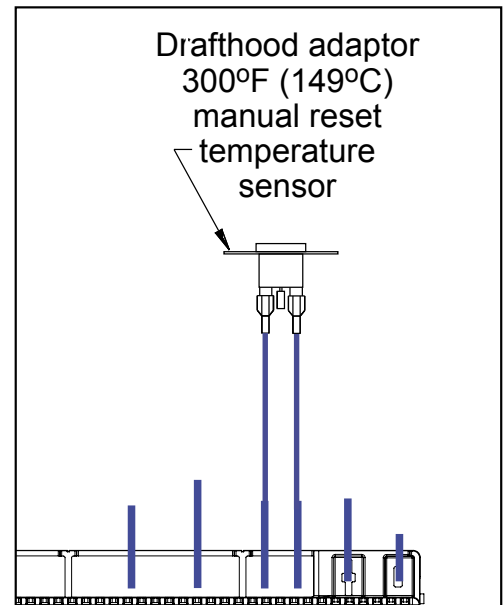

Figure 44: Spill Switch Wiring Diagram
Step 5: Insert the stripped spill switch wires into the ON/OFF terminal block and tighten the set screws. Note, there is no polarity to the spill switch wires so it will work in either position of wires (Figure 44).